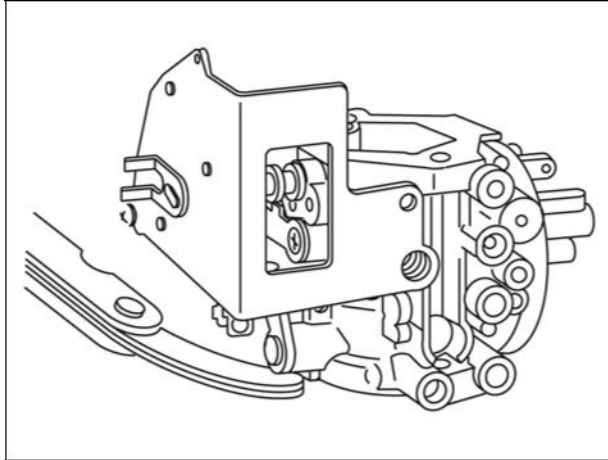

Figure 38
1. Lay carburetor on flat surface and check throttle and choke shaft clearance (Figure 38).